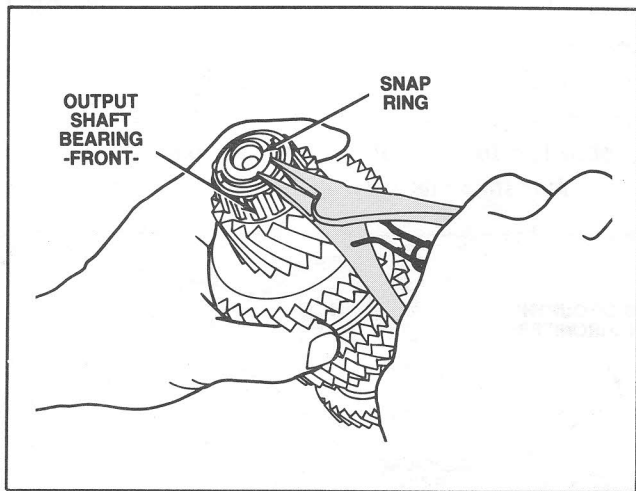

Figure 67 Snap Ring Removal
6. Remove the bearing snap ring from the output gear end of the shaft. (Figure 67).